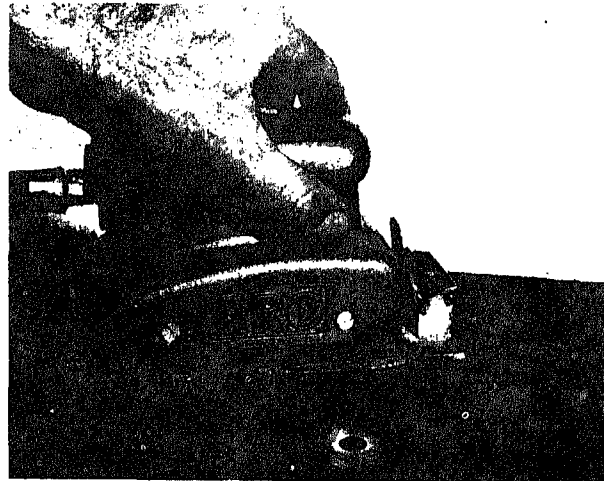

Fig. 2-1-12. Sand cylinder head
4. Sand surface of cylinder head with an orbital sander. **not use a disc sander.** Do not allow the sander to tilt rock, since this may result in rounding of the machine edges. Fig. 2-1-12.